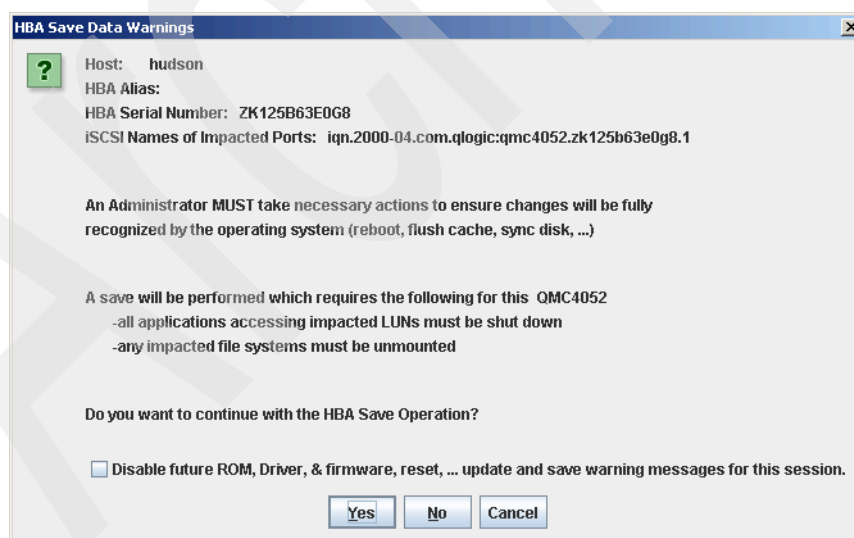

Figure 21-49 SANsurfer - HBA save data warning
4. Click **Yes** to acknowledge the warning in Figure 21-49.